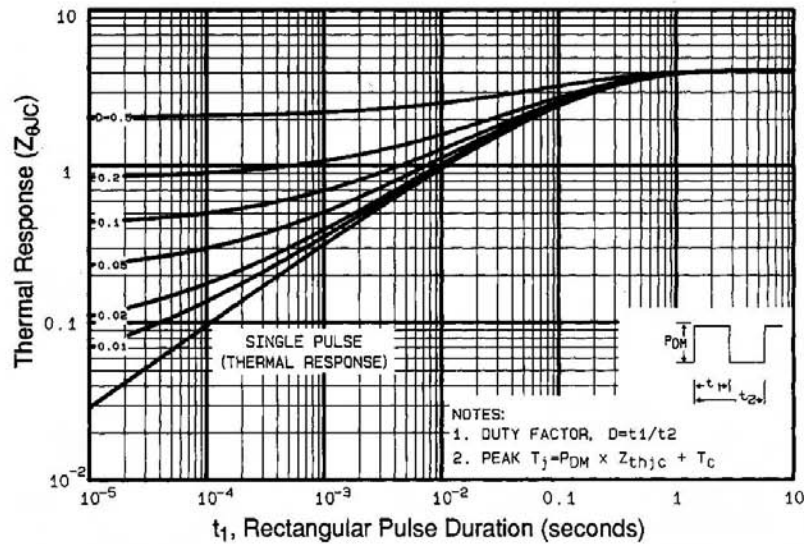

Fig 11. Maximum Effective Transient Thermal Impedance, Junction-to-Case
① Repetitive rating; pulse width limited by max. junction temperature (See Figure 11)
③ $I_{SD} \leq 1.8A$, $di/dt \leq 80A/\mu s$, $V_{DD} \leq 600$, $T_J \leq 150^\circ\text{C}$
⑤ $t=60s$, $f=60\text{Hz}$